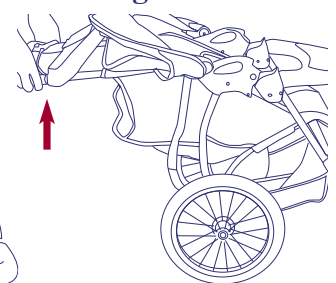

Figure 22.
- Lift up on the stroller handle with both hands until the stroller frame is erect and locked in the open position. See figure 22. The stroller has spring-loaded latches on both sides of the frame. Test that both latches are fully engaged prior to placing your child in the stroller.